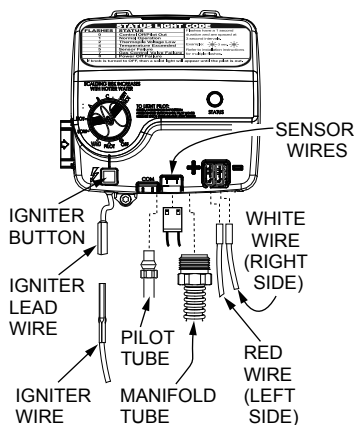

FIGURE 25.
6. Reconnect the manifold tubing (3/4" wrench), pilot tubing (7/16" wrench), temperature sensor wires, and thermopile wires to the gas control valve/thermostat. (See Figure 25 for the correct position of the thermopile wires.) Do not cross-thread or apply any thread sealant to the fittings.
4. Disconnect the igniter wire from the igniter lead wire. Disconnect the temperature sensor wire, then use needle nose pliers to disconnect the red (+) and white (-) thermopile wires. Disconnect the pilot tube (7/16" wrench) and manifold tube (3/4" wrench) at the gas control valve/thermostat (Figure 25).